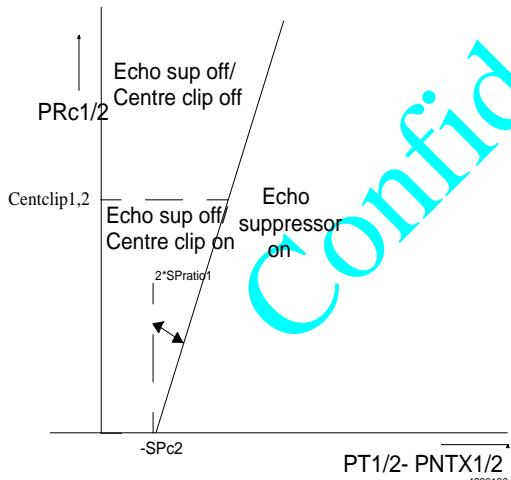

FIGURE 19. Echo suppressor modes
The echo suppressors (ES) suppresses the echoes of the transmitted signal with programmable attenuations, thresholds, ratios and time constants. (see Figure 19)